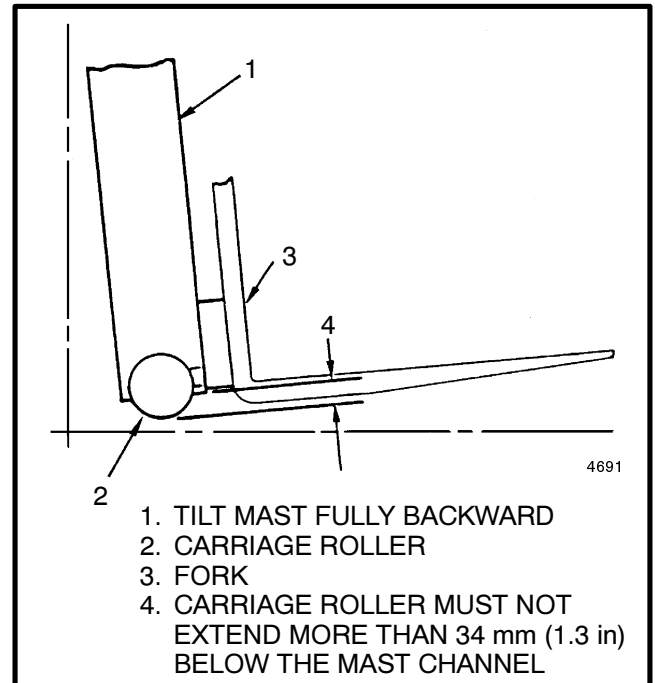

FIGURE 21. LIFT CHAIN ADJUSTMENTS
LIFT CHAIN ADJUSTMENTS (See FIGURE 21.)
3. See FIGURE 21. Check the amount that the bottom carriage roller extends below the inner channel of the mast. The carriage roller must not extend more than 1/3 of the roller diameter below the inner channel. If the adjustment is not correct, remove the load and adjust the chain anchors. Make sure that each chain anchor is adjusted the same amount.